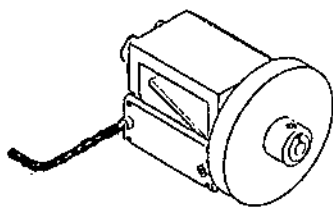

FIGURE 1
Step 3. Using a 7/64" hex wrench, loosen the two #6-32 X 3/8" socket head cap screws by turning the wrench counter-clockwise. Do not remove the screws. Loosen them to the point that they can be turned with fingers alone. Please see Figure 1.